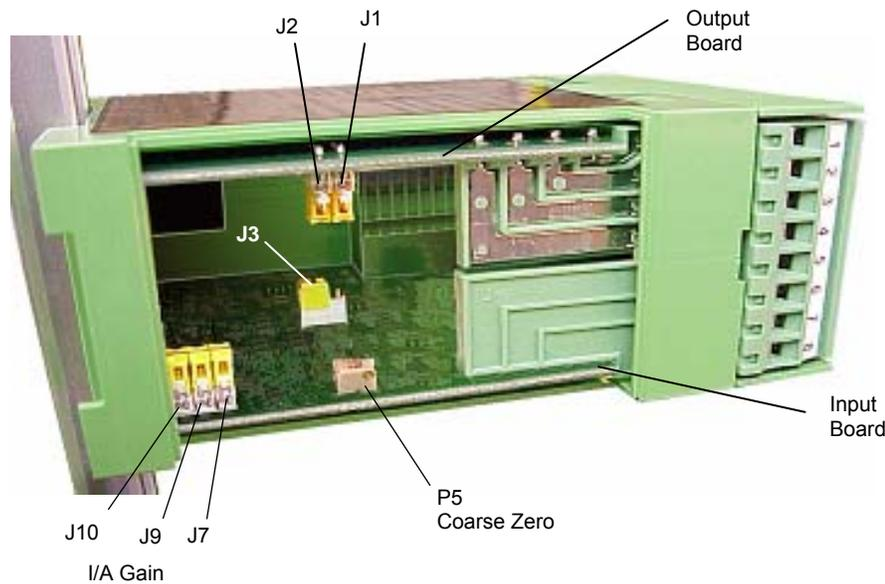

Figure 4 - Internal Jumper-switches and Potentiometer Location
A number of operational characteristics can be configured prior to mounting or wiring the amplifier. We recommend that you first familiarize yourself with the internal switch locations, settings, and potentiometers by opening the snap-on access cover. Figure 4 illustrates the location of configurable items on each of the printed circuit boards.
In addition to the Gain and Zero adjustable Potentiometers visible on the front of the unit, there is an adjustment you can make by removing the snap-off cover on the side of the amplifier. The adjustment is on the input printed circuit board as shown in Figure 4. The following table provides you with a list of all the Potentiometers, where they are located on the Classic Series DIN Rail input printed circuit board, and a description of their functions. To adjust potentiometers, refer to *Adjustment Tools 3.7*.
The Excitation Voltage is determined by the position of jumper switch J3. Refer to Figure 4 for Jumper-switch locations. The jumper default setting is J3 (1-2) for 5.00V excitation Do not use 10V setting J3 (2-3) unless explicitly permitted by the load cell electrical specifications. Promptly verify the excitation voltage after power-up to avoid overdriving strain gages. Note that if there is no external load resistance, the voltage may rise to 6.4V, but will immediately regulate at 5.00V when the load cells are connected.
The group of jumper-switches that control the fixed gain of the Instrumentation Amplifier (IA) are located closest to the front left edge of the Input card. (Refer to Figure 4) The lowest gain ($A_v = 5$) occurs when all of the switches are in the 1-2 position. As switches are moved “away” (into position 2-3) from left to right, the gain progressively increases as described in following table:
The damped output for a tension indicator can be configured as either a +/- 2V output or a +/- 1mA output by changing the position of jumper-switch J1 located on the Output Card (Refer to Figure 4 for location). Voltage output is selected by setting J2 (1-2). Current output is selected when J2 (2-3). Note that different wiring terminals are employed for the signal return when configured for current or voltage.
The amount of damping for the meter output (intended to drive a tension indicator) can be configured by the position of jumper-switch J2 on the Output card (refer to Figure 4 for location information). Setting the jumper switch to J2 (1-2) sets the break frequency at 0.3 Hz. Setting the jumper switch to J2 (2-3), the break frequency setting is raised to 3.7 Hz